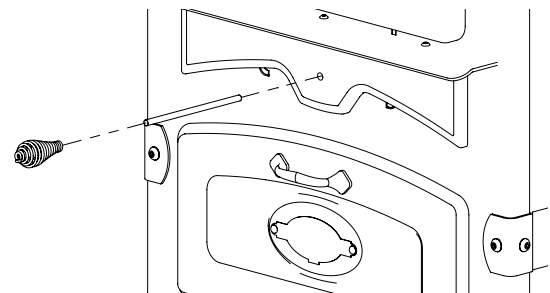

Figure 6: Ash Shuttle Rod Assembly
2. Place threaded end of firepot cleaning rod through decorative casting and screw into fire pot. See figure 6.